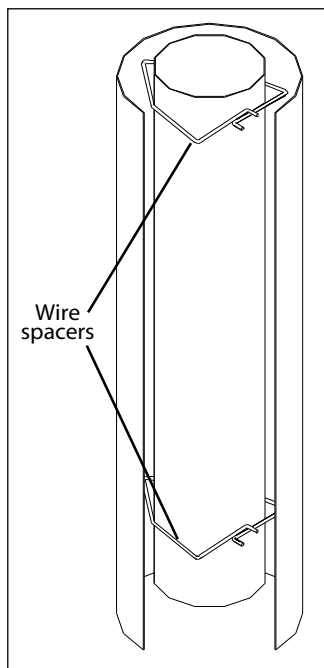

Figure 25: Wire Spacers.
8. Slide the Ø6⁵/₈" (16.25 cm) flex intake liner over the flex vent. Install four (4) wire spacers around the flex pipe. Ensure the wire spacers are positioned at either end of the pipes, and at each end of any elbows in the liners (refer to Figure 25 and 26).